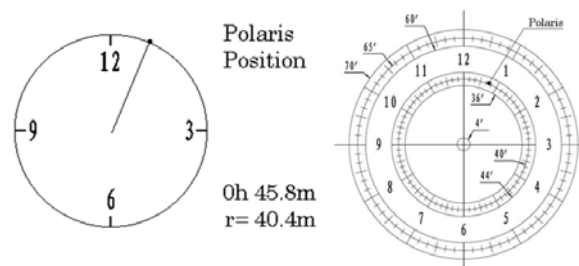

Figure 13
- (1) Turn the mount power on. Use the Hand Controller (“MENU” => “Settings” => “Set Eyepiece Light”) to set illumination intensity.
- (2) Use the Hand Controller (MENU => “Align” => “Pole Star Position”) to display the Polaris Position on the LCD screen, as indicated in the left side of the figure below. For example, June 22, 2014, 20:19:42 in Boston, US (alt N42°30’32” and long W71°08’50”), 300 min behind UT, the Polaris Position is 0h45.8m and 40.4m (Figure 13).